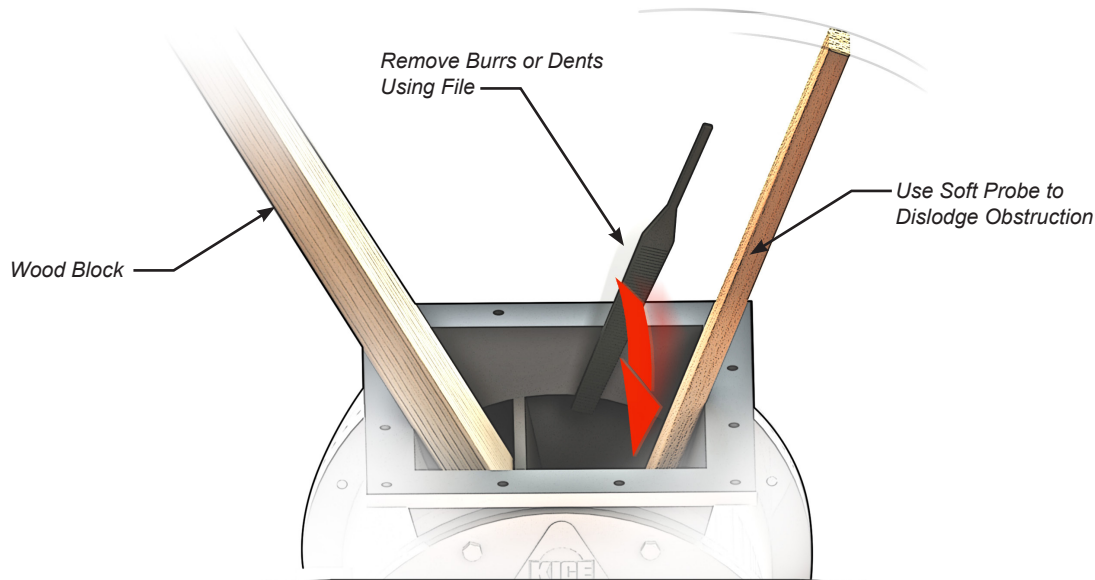

FIGURE 6
3. Place a block in the airlock to prevent the rotor from turning unexpectedly (Figure 6).
3. Place a wood block in the airlock to prevent the rotor from turning unexpectedly (Figure 6).